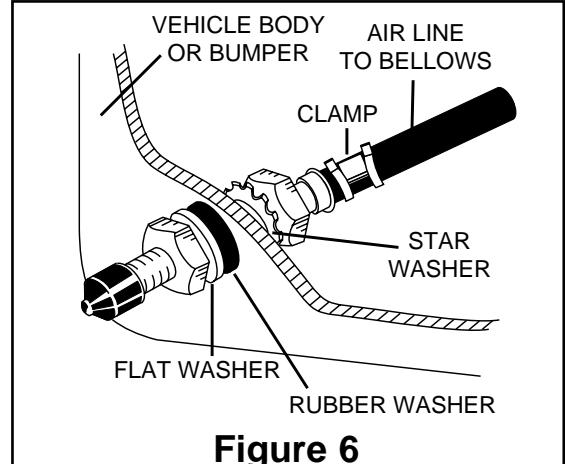

Figure 6
L. Drill a 5/16" hole for inflation valve and mount as in illustration (Rubber washer is for outside weather seal). See Figure 6.
G. Drill 5/16" hole for inflating valves and mount as illustrated (Rubber washer for outside weather seal, Figure 6).